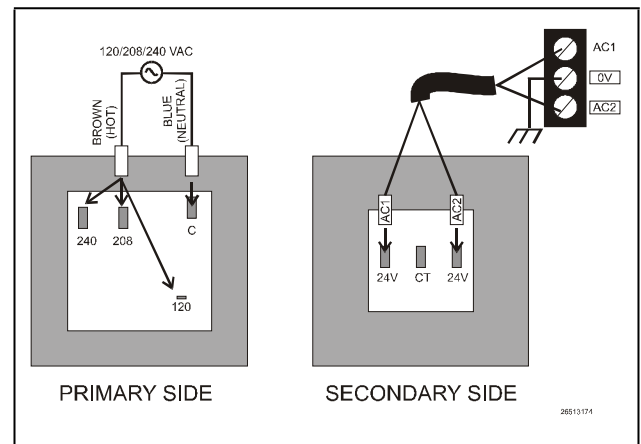

Figure 2-6 - Wiring Non-Center Tapped MultiFlex Boards to Transformers With a Center Tap
**Figure 2-6** shows how to wire a non-center tapped device to a center-tapped transformer.